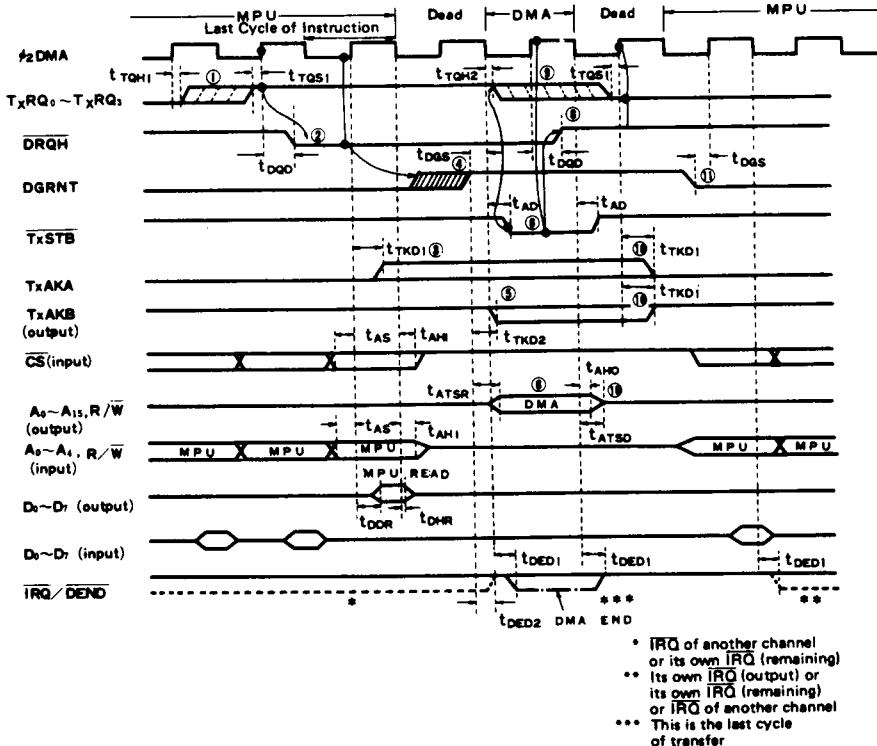
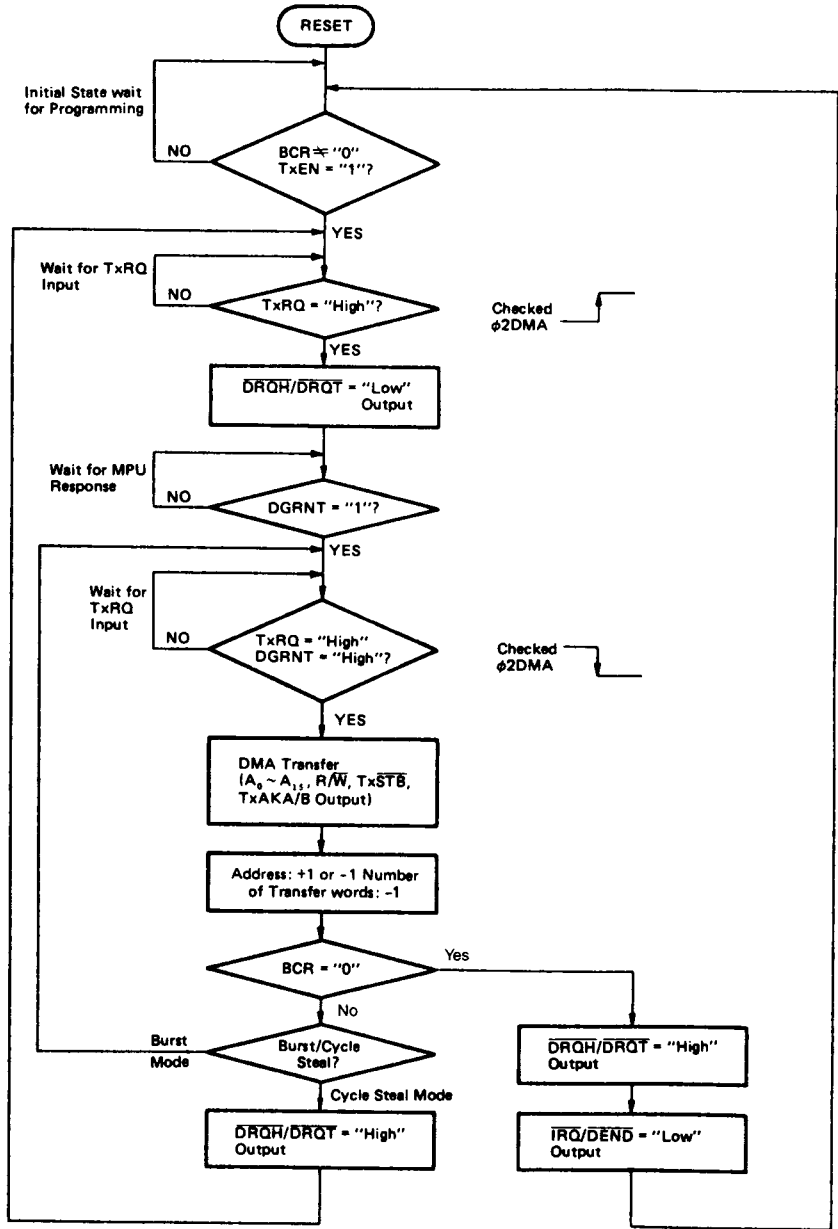
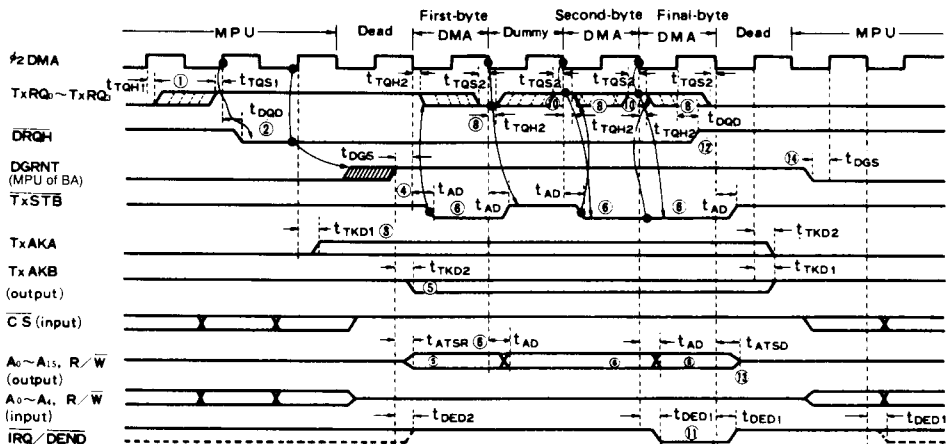
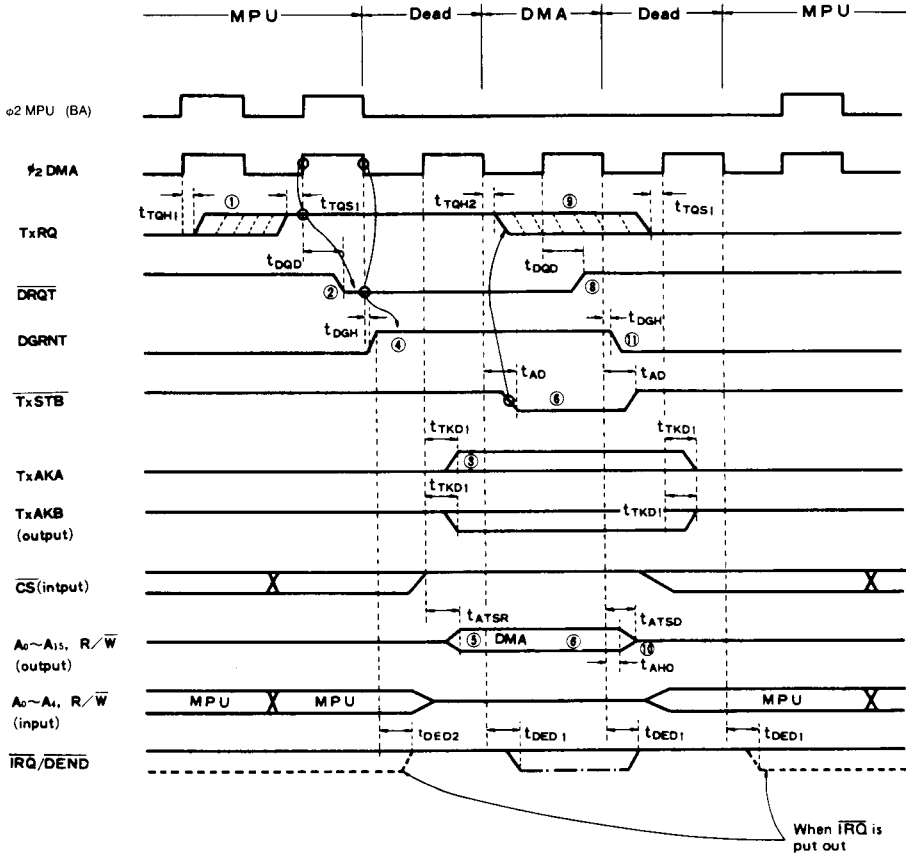

Figure 12 HALT Cycle Steal Mode
Figure 13 Flow Chart of DMAC Operation
Figure 16 HALT Burst Mode
Figure 17 TSC Cycle Steal Mode
Timing chart is shown in Fig. 12 and flow chart is shown in Fig. 13. Procedure of transfer operation is the following. (No. ① ~ ⑩ in Fig. 12 correspond to the following items.)
- ① TxRQ₀~TxRQ₃ input is checked at the rising edge of ϕ_2 DMA. When it is at "High" level, it gets into the following operation.
- ② DRQH="Low" is output and MPU is requested to stop its operation.
- ③ TxAKA is driven (Level output).
- ④ MPU stops its operation and DMAC waits until DGRNT goes to "High" level.
- ⑤ When DGRNT goes to "High" level, DMAC drives TxAKB, A₀~A₁₅ and R/W lines.
- ⑥ TxSTB is given to perform DMA transfer.
- ⑦ Address is incremented or decremented by one and number of transfer words is decremented by one.
- ⑧ When DRQH rises to "High" level, MPU gets into Instruction Cycle again.
- ⑨ TxRQ falls to "Low" level.
- ⑩ A₀~A₁₅ and R/W get into high impedance state again.
[Note] TxRQ₀~TxRQ₃ input in HALT cycle steal is, in principle as shown in Fig. 12, set to "High" every 1-byte transfer on account of I/O request. When TxSTB of the DMAC is driven, it is reset to "Low". Take care not to be against this principle, or the following states may happen.
Its timing chart and flow chart are shown in Fig. 16 and Fig. 13 respectively. Procedure of transfer is the following (No. ① ~ ⑭ in Fig. 16 correspond to the following items).
- ① TxRQ is checked at the rising edge of ϕ_2 DMA. When it is at "High" level, it gets into the following operation.
- ② \overline{DRQH} ="Low" level is given and MPU is requested to stop its operation.
- ③ TxAKA is driven.
- ④ MPU stops and DMAC waits for DGRNT rising "High" level.
- ⑤ When DGRNT rises "High" level, DMAC drives TxAKB, $A_0 \sim A_{15}$, and R/\overline{W} lines.
- ⑥ TxSTB is sent out to perform DMA transfer.
- ⑧ TxRQ falls to "Low" level.
- ⑨ When number of transfer words is 0, from ⑪ to ⑭ operations are performed.
- ⑩ When BCR is not "0", TxRQ is checked at the falling edge of ϕ_2 DMA. When TxRQ is at "High" level, DMA transfer is performed through ⑥ ~ ⑧ again. When TxRQ is not at "High" level, DMAC waits for becoming "High" level.
In burst mode, TxRQ should be also, in principle, set to "High" when I/O request is asserted, and reset to "Low" when TxSTB goes to "Low". If TxRQ is asserted as level input without being reset, DMA transfer is performed at all cycles of ϕ_2 DMA since TxRQ is always at "High" level at the falling edge of ϕ_2 DMA. Its example is shown in the second-byte and the third-byte transfer in Fig. 16.
Its timing chart and flow chart are shown in Fig. 17 and Fig. 13 respectively.